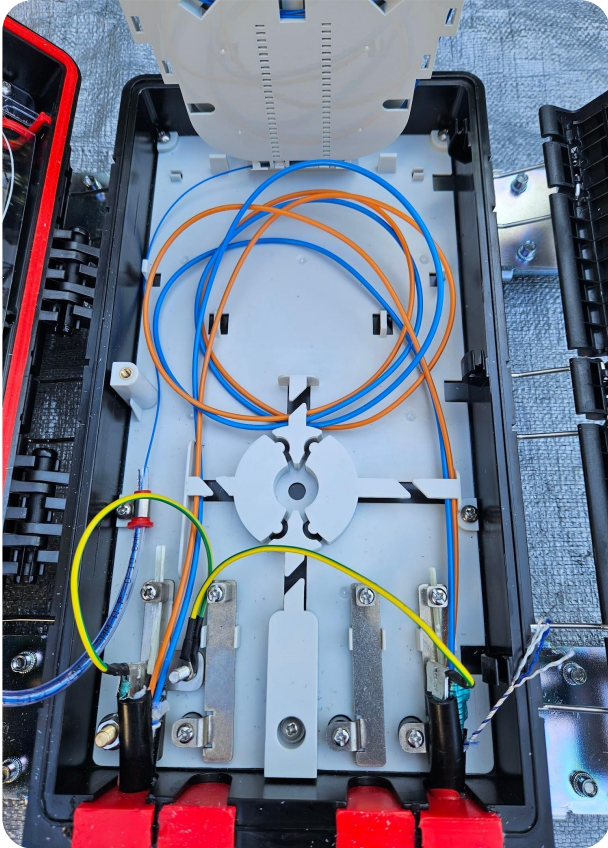

Fig. 6a
- Route loose buffer tubes as shown in Fig. 6a